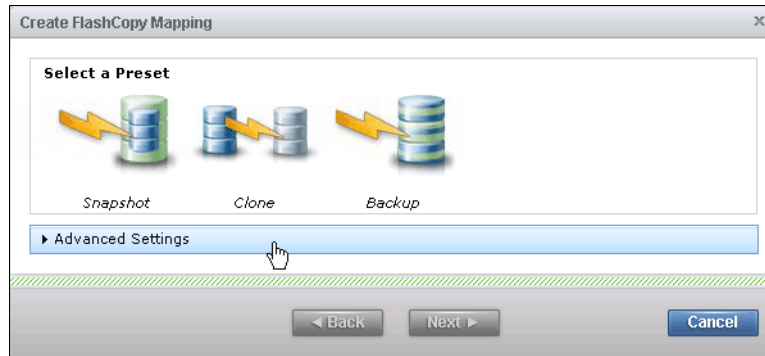
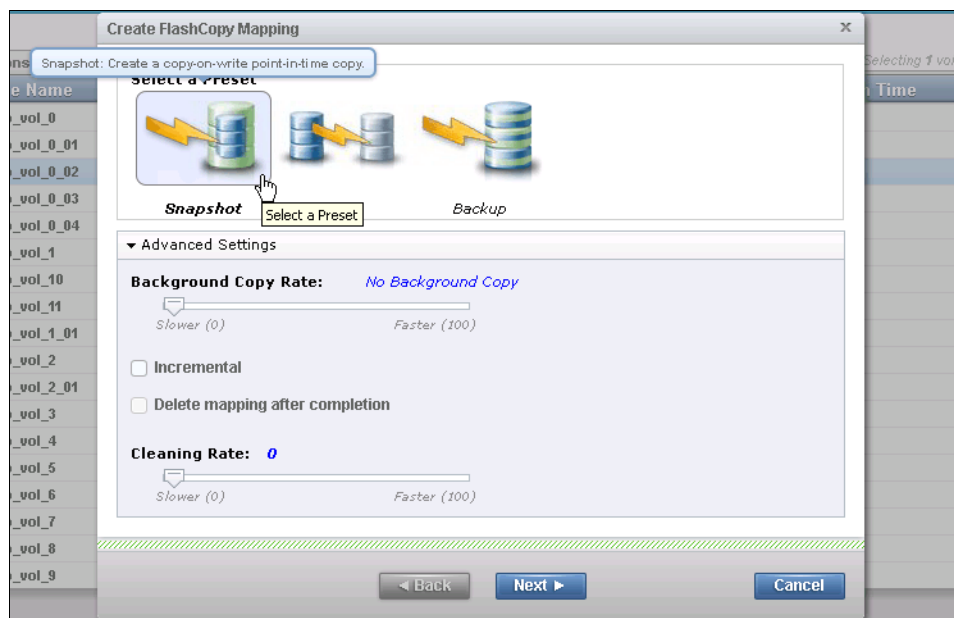

Figure 11-15 Choose a preset most similar to your requirement
Figure 11-16 Default setting for the snapshot preset
2. Choose the preset, but no matter which preset you choose, you can modify the setting of the FlashCopy mapping. Choose one preset that has the most similar configuration to the one required, and click **Advanced Settings** to make any appropriate adjustments on the properties (Figure 11-15 on page 344). Figure 11-16 on page 344 shows the default setting.